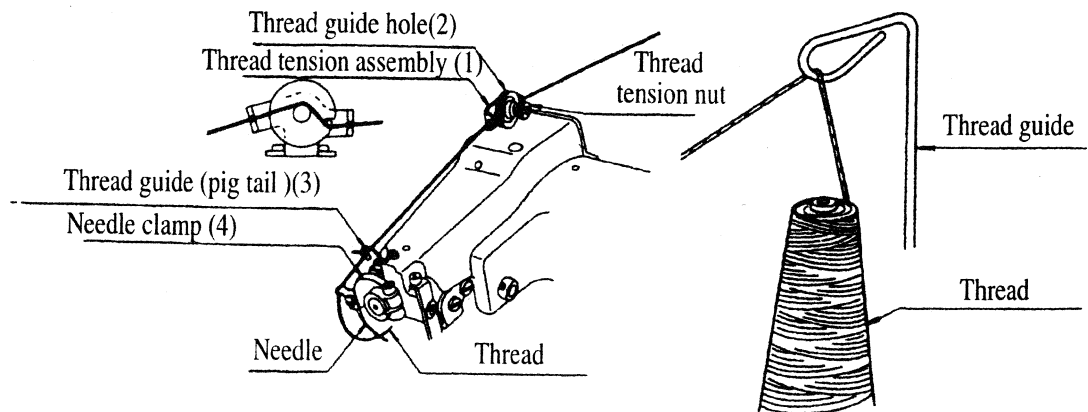
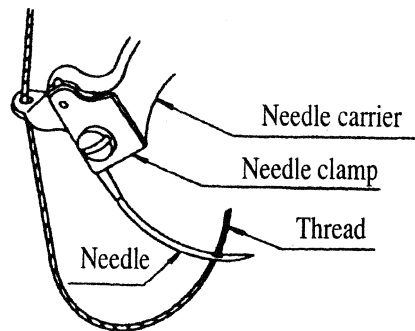

FIG.9
FIG.11
A.Put the thread on the plastic cap (Fig.9)
C. Please carefully refer to Fig.9 to thread the machine correctly.
When the thread is up to the thread guide assembly (1), draw the thread through thread guide hole (2) out of the front hole (Fig.9), thread guide (3) and the hole of the needle clamp (4) from up to down. Please note that the direction of the needle is over left, draw the thread upward through out of the needle hole (Fig.11).